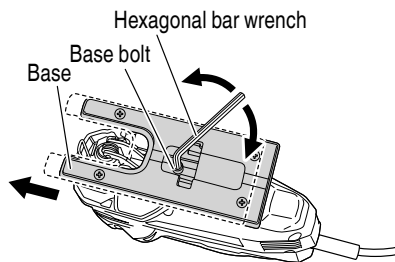

Fig. 12
- (1) Loosen the base bolt hexagonal bar wrench attached on base. (Fig. 12)
- (2) Move the base fully forward, and tighten the base bolt again. (Fig. 12)
- (3) Set the orbital position to "0".
- (3) Tighten the base bolt again. (Fig. 12)
- (4) Set the orbital position to "0" - "III".